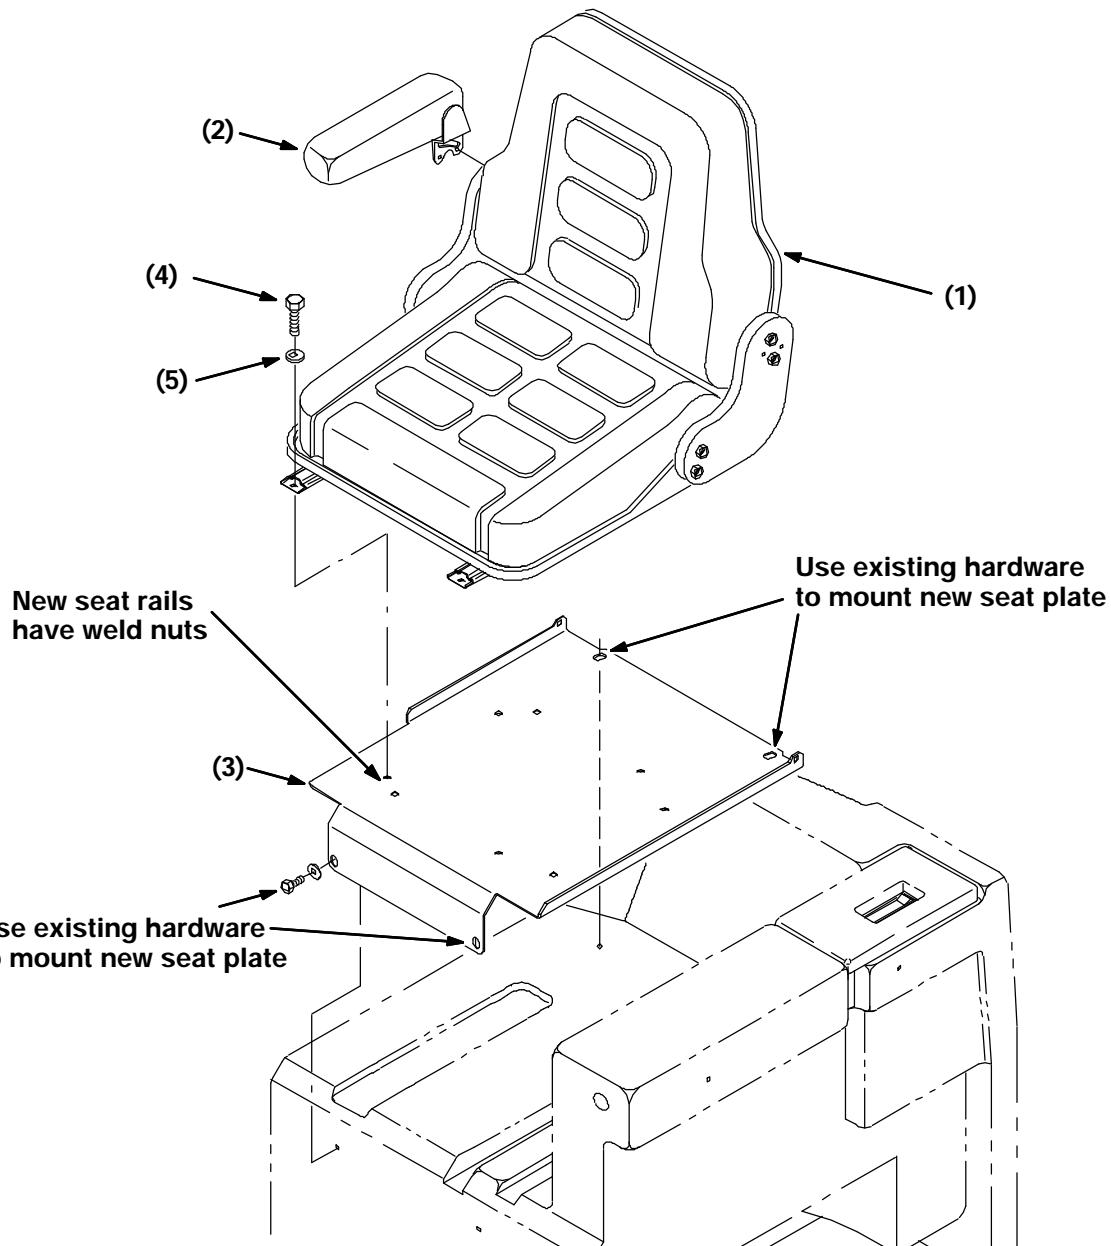

FIG. 1 - Installation of Grammer Seat
(Refer to FIG. 1)
2. Use the new seat rails and hardware (4) and (5) to mount the seat (1) to the mounting plate (3). The screw and washers install into the weld nuts on the set rails from the underside of the mounting plate. Tighten all hardware. (Refer to FIG. 1)
3. Install the arm rest (2) onto the seat with the hardware from the arm rest assembly.
4. Use the hardware retained in Step 1 to install the seat and mounting plate onto the seat support. Tighten all hardware. (Refer to FIG. 1)